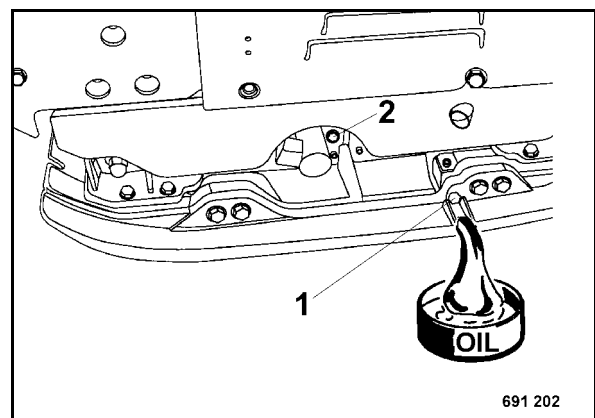

Fig. 69
- Fill in new oil through the oil level inspection bore (Fig. 69), for this purpose park the machine on a slant.